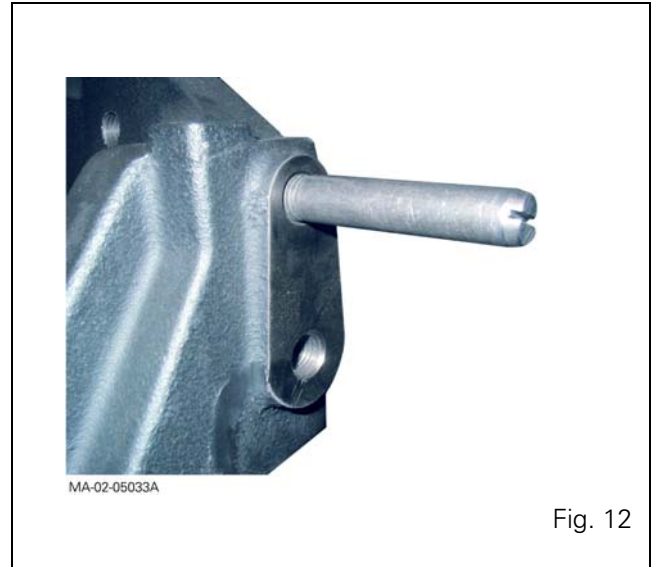

Fig. 12
**26.** Screw a guide stud onto each rear face of the frame (Fig. 12).